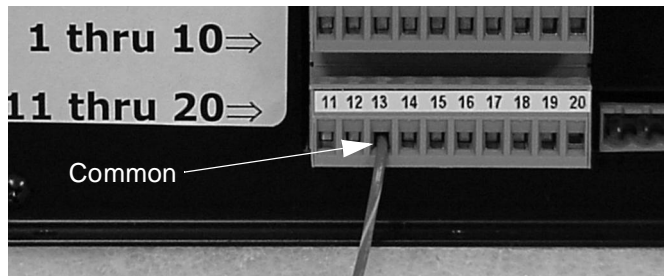

Figure 30. Common for Extend and Retract Contacts
1. Connect the common to terminal #13 (see Figure 30).